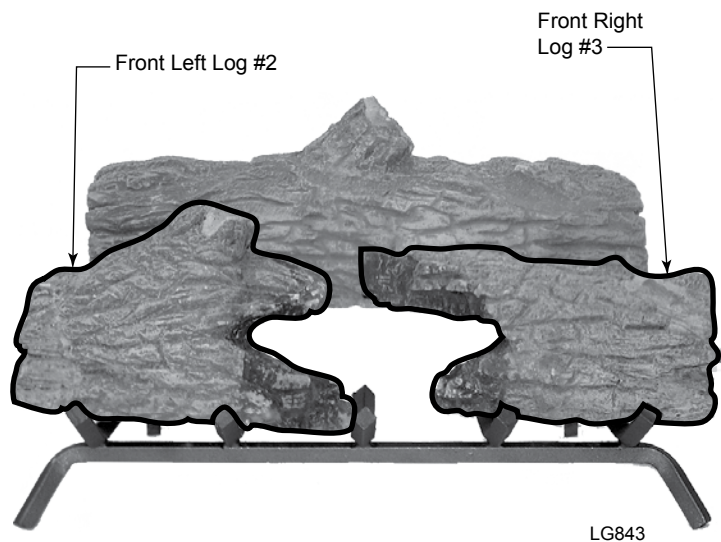

**Figure 22 -
1. Slide shield plate behind burner pan. *Figure 22*